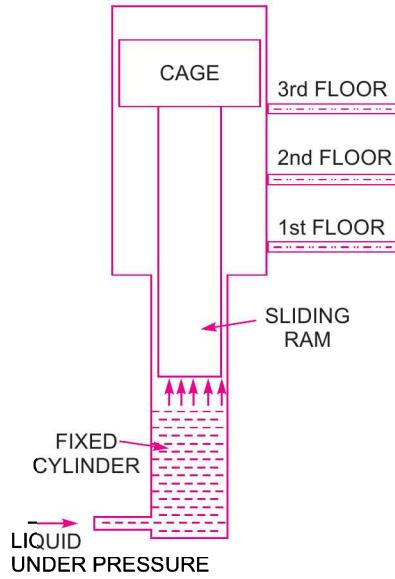

Fig. 21.8 Suspended hydraulic lift.
21.6.1 Direct Acting Hydraulic Lift. It consists of a ram, sliding in fixed cylinder as shown in Fig. 21.8. At the top of the sliding ram, a cage (on which the persons may stand or goods may be placed) is fitted. The liquid under pressure flows into the fixed cylinder. This liquid exerts force on the sliding ram, which moves vertically up and thus raises the cage to the required height.